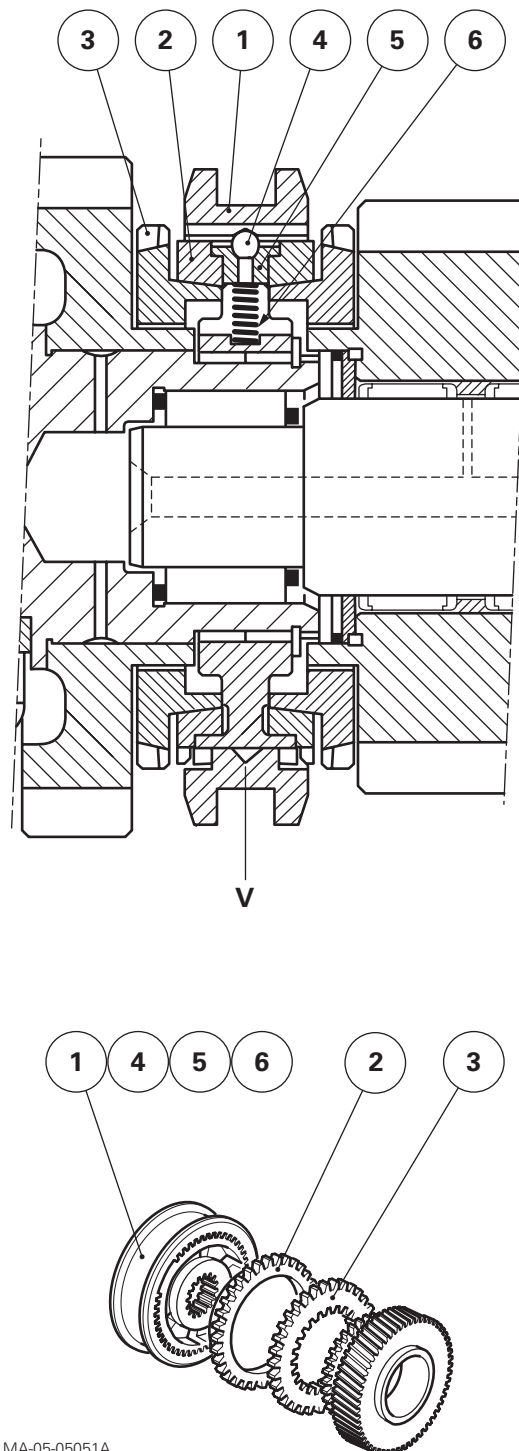

Fig. 4
Drive is transmitted from the main unit by the driven gear (67) which is permanently meshed with the driving gear (62) when in forward position (Fig. 7) or the layshaft gear (72) when in reverse position (Fig. 4).
Parts list (Fig. 4)
Locked position (Fig. 4)
Neutral position (Fig. 4)